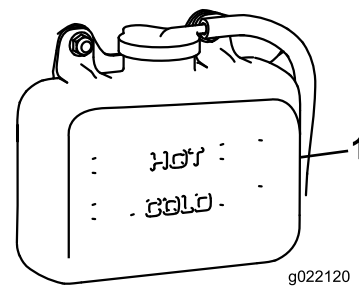

Figure 78
1. Check the level of the coolant in the expansion tank (Figure 78).